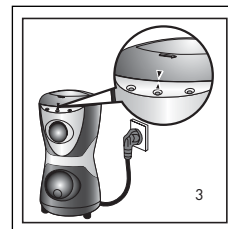

fig.3
- Secure the lid back in place until the arrows on the lid and appliance are lined up (fig. 3). The appliance can only be switched on when the lid is correctly closed.